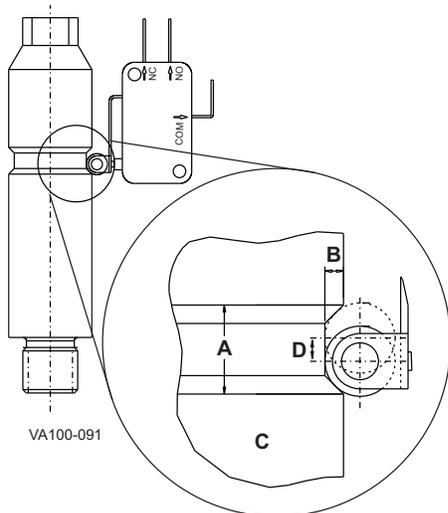

Figure 13: Detail of the Micro Switch Position for Divert Mode
**Callouts for (Figure 13, item:**